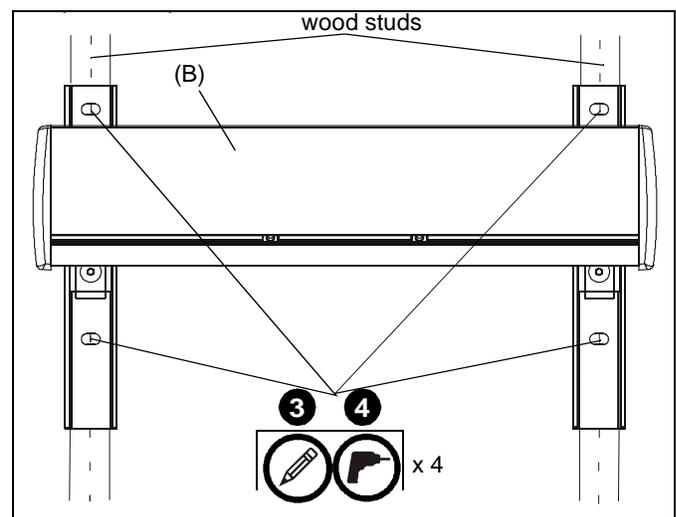

Figure 3
2. Line up inner four holes on mounting bracket (B) with center of studs at desired mounting location. (See Figure 3)
3. Using mounting bracket (B) as a template, mark four holes at the holes in bracket. (See Figure 3)
4. Drill four 7/32" x 2-1/2" deep holes at marked locations in wall. (See Figure 3)